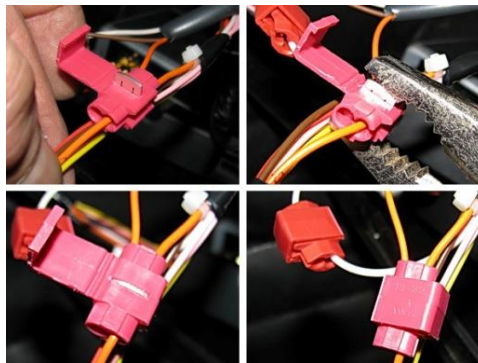

Figure 17 — Using connectors to connect wires of signal cable
5) It is **strongly recommended** to lay signal cable together with standard electrical vehicle wiring with mandatory cable ties fixing of every **50 cm**, at a positive ambient temperature (see figure 17).
Whenever you need to connect the bunch of wires of the signal cable to a terminal or to a tracking device, we recommend to use connectors (see figure 17).